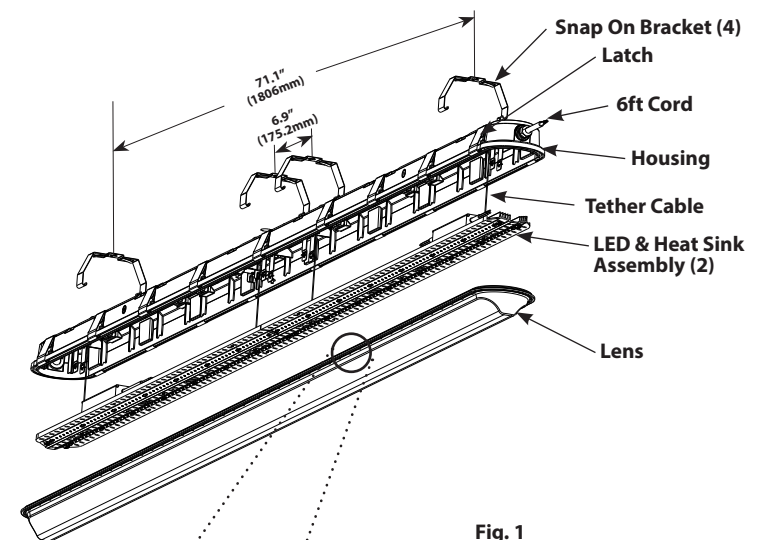

Fig. 1
1. Use appropriate mounting hardware (not supplied) to secure the **Snap On Brackets (4)** to **Mounting Surface**. Refer to recommended **Snap On Bracket** in Fig. 1.
WARNING: Mount Snap On Brackets (4) farther away from each other and symmetrical about the center as shown in **Fig. 1**. **Snap On Brackets (4)** must be aligned with each other to secure **Housing**.
4. Snap out the **LED & Heat Sink Assembly (2)**. **Tether Cables (4)** are provided, if required.
5. Feed supply wires through one of the **Conduit Plugs (8)** to make electrical splices. Cord-grips (4) are provided and can be used based on application.
6. Snap in **LED and Heat Sink Assembly (2)** and secure **Lens** to **Housing** by **Latch**. Be careful not to pinch wires. Check that gasket is fully sealed.
8. Snap **Housing** on **Snap On Brackets (4)** as shown in **Fig. 2**. Ensure that **Housing** is secure to **Snap On Brackets (4)** and inserted into the **Grooves** on **Lens** as shown in **Fig. 1**.
9. Use silicone or teflon tape on all **Conduit Plugs (8)** and on the threads of all conduit entry points. If outdoor surface is irregular, use caulk to seal any gaps around **Housing**.